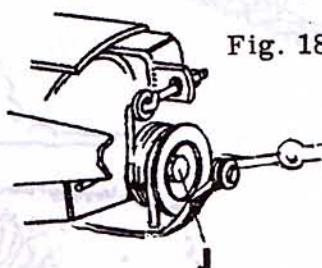

Fig. 18
Set tension on torsion spring (J) by tightening eyebolt until most of the weight on outer shoe is removed. If torsion spring is loose, sickle bar will be hard to lift. If torsion spring is set too tight, outer end of sickle bar will have a tendency to bounce in operation. (Fig. 18)
## WEAR PLATE ADJUSTMENT (Fig. 18)
## KNIFE CLEARANCE (Fig. 18)